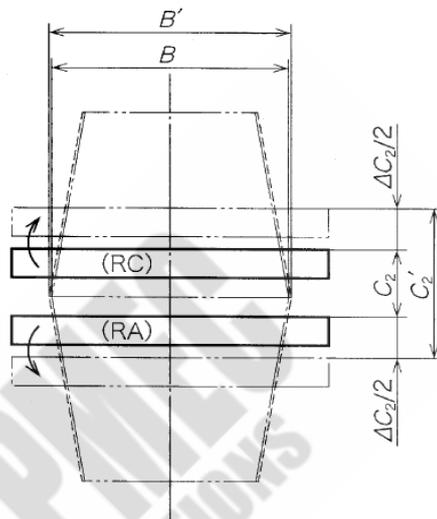

Figure 14 Pitch diameter of nipple
- b) **Calculation** The pitch diameter B' of taper thread to be obtained shall be calculated according to formula (5), and rounded off to two decimal places (see figure 14).